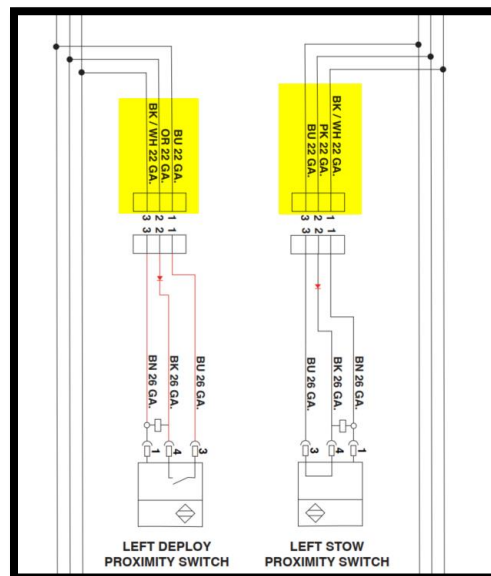

Figure 4-Left deploy and stow connectors.
2.3.3. Make sure the connector wiring is aligned with the wire code shown in the figure 4.